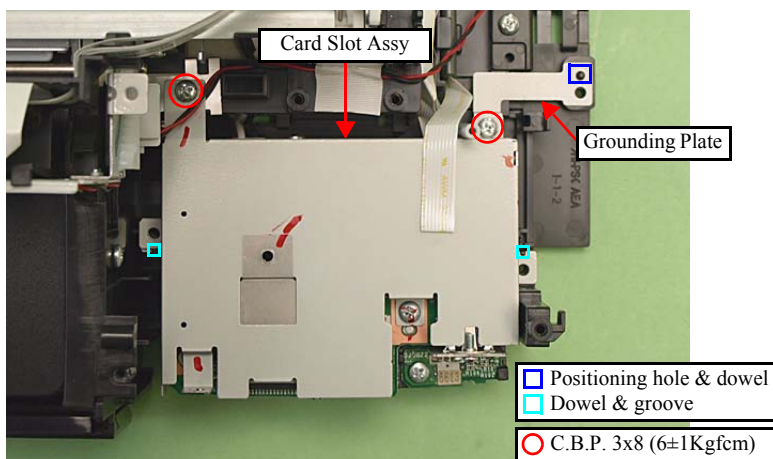

Figure 4-53. Removing the Card Slot Assy (1)
- Align the grooves (x2) of the Card Slot Assy with the dowels (x2) of the Base Frame. (See Fig. 4-53.)
- When attaching the Grounding Plate, install it over the Card Slot Assy, and align the positioning hole of the Grounding Plate with the dowel of the Base Frame, and tighten them together with the screw. (See Fig. 4-53.)